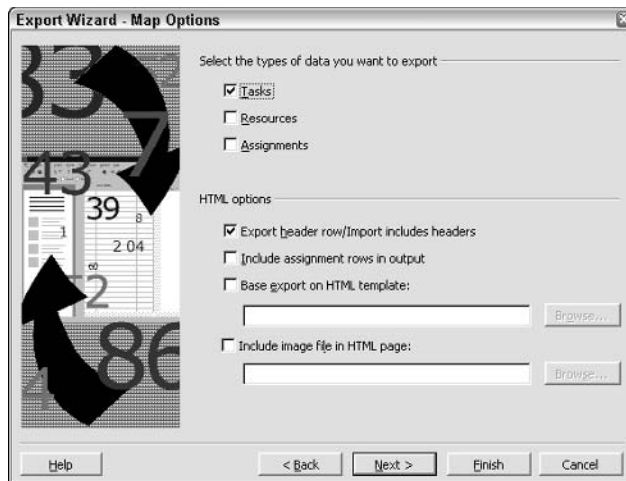

Figure 26-15: Select the options for the export map.
3. Choose to create a new map. Project displays the Map Options dialog box, as shown in Figure 26-15.